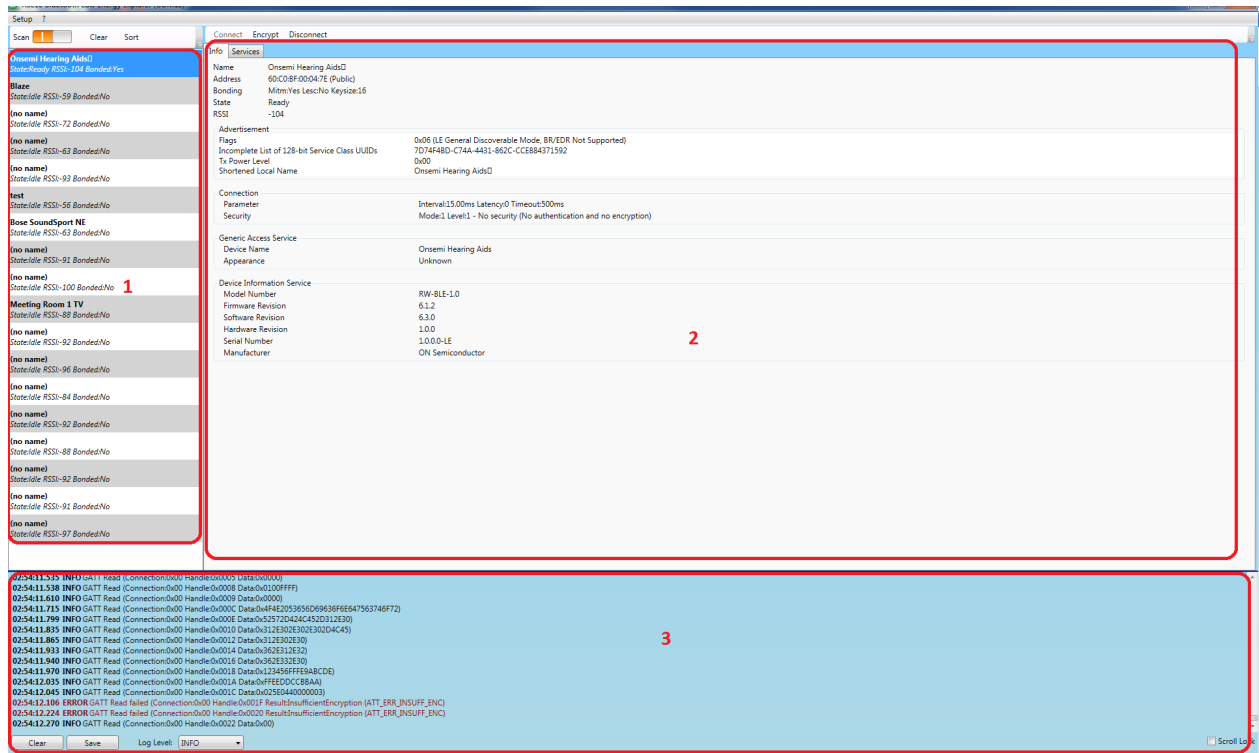

Figure 3. Bluetooth Low Energy Explorer Window Areas
The Bluetooth Low Energy Explorer window is split into four main areas, as shown in Figure 3, above:
4. User action area (not shown in Figure 3; visible only when needed, e.g.: for bonding data)